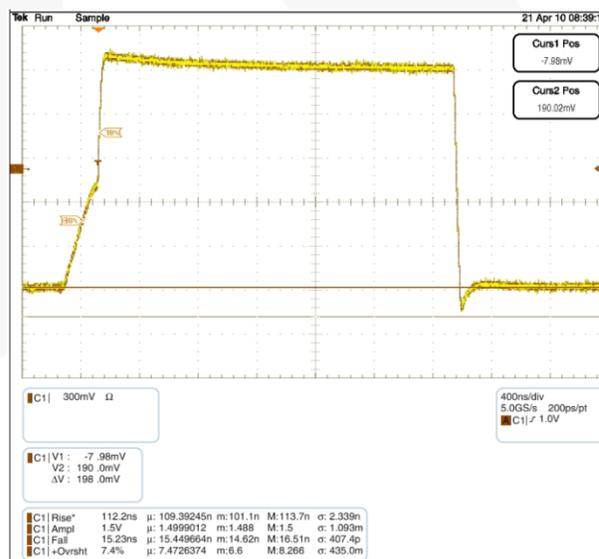

Figure 4. Waveform C: 600pF, Total  $R_{PU} = 2.2K\Omega$
between the ports until either of the port's  $V_{CC}/2$  thresholds are reached. After the RC time constant has reached the  $V_{CC}/2$  threshold of either port, the port's edge detector triggers both dynamic drivers to drive their respective ports in the LOW-to-HIGH (LH) direction, accelerating the rising edge. The resulting rise time resembles the scope shot in Figure 4. Effectively, two distinct slew rates appear in rise time. The first slew rate (slower) is the RC time constant of the bus. The second slew rate (much faster) is the dynamic driver accelerating the edge.
The FXMA2104 dynamic drivers have enough current-sourcing capability to drive a 400pF capacitive bus. This is beneficial when an I2C buffer / repeater is required. The I2C specification stipulates a maximum bus capacitance of 400pF. If an I2C segment exceeds 400pF, an I2C buffer / repeater is required to split the segment into two segments, each of which is less than 400pF. Figure 4 is a scope shot of an FXMA2104 driving a lumped load of 600pF. Notice the (30% - 70%) rise time is only 112ns (total RPU = 2.2K · ). This is well below the maximum edge rate of 300ns. Not only does the FXMA2104 drive 400pF; it also provides excellent headroom below the I2C specification maximum edge rate of 300ns.